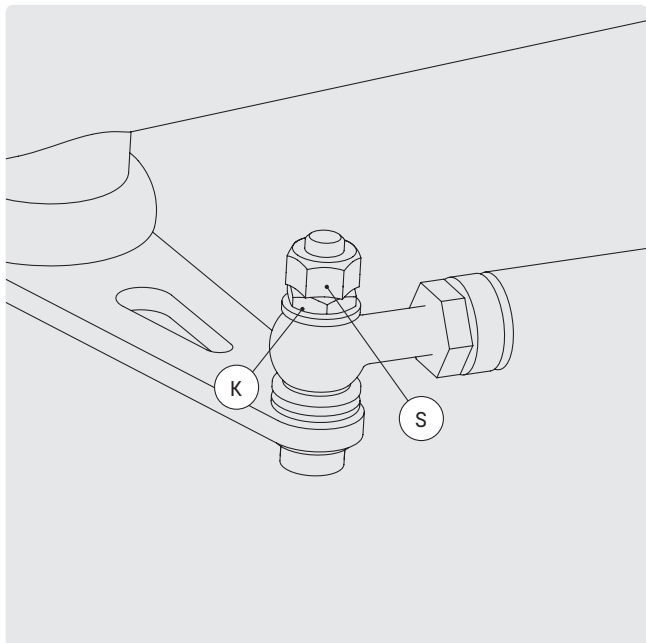

FIG. 32
- If you prefer a stiffer steering tighten the flat nut K on the steering linkage slightly stronger (Fig. 32). For this you must first remove the self-locking nut S.